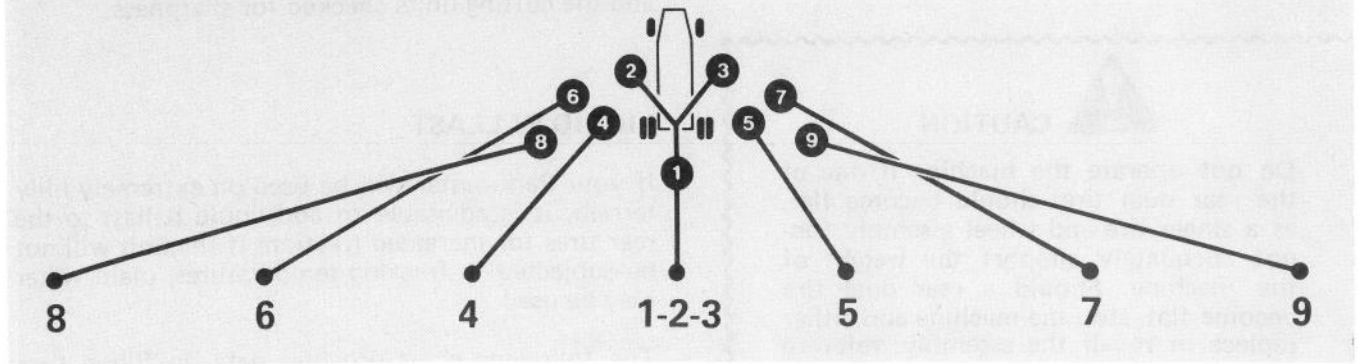

Figure 33
3. Push the hydraulic control levers toward the valve section to lower the mowers with Parkmaster in motion to eliminate possibility of spinning tractor drive wheels on the turf causing turf damage. Use the diagram on top of hydraulic control panel as a guide to lowering mowers (Fig. 33).